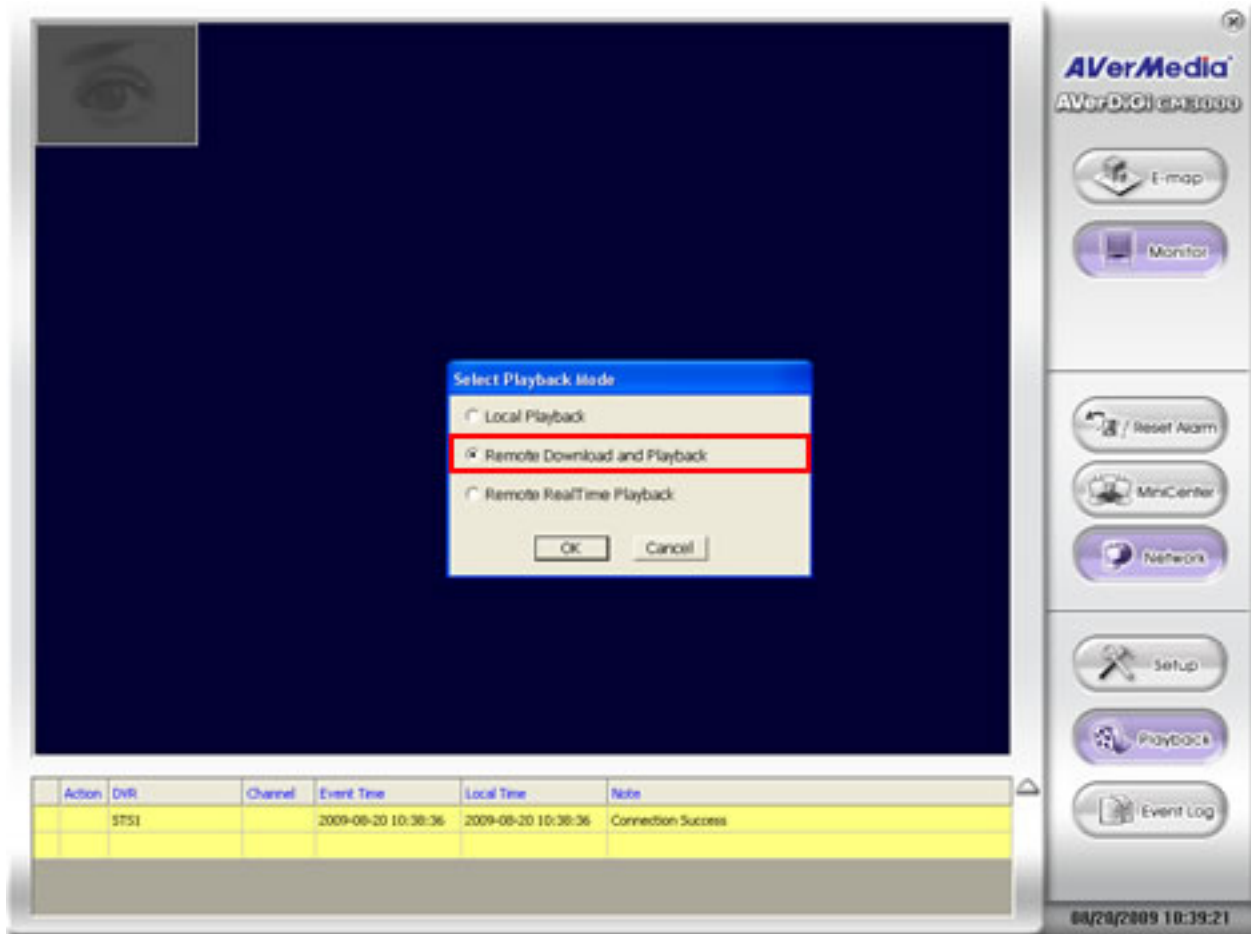

Figure 146. AAR - Remote Download and Playback
7. Select the STS101 database and then click [OK] (Figure 146).